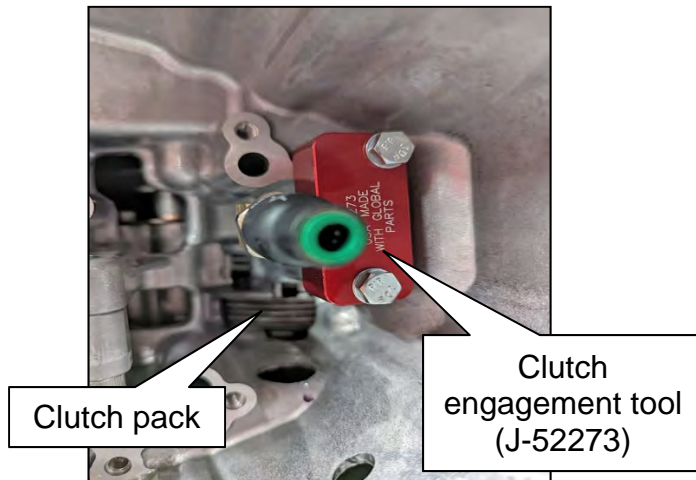
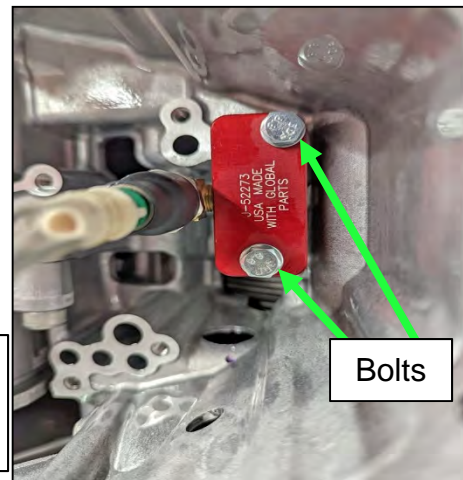

Figure 27
Figure 28
- a. Install the Clutch Engagement Tool (J-52273) to the CVT case with two bolts, finger tight, where shown in Figure 27 and Figure 28 on page 19.